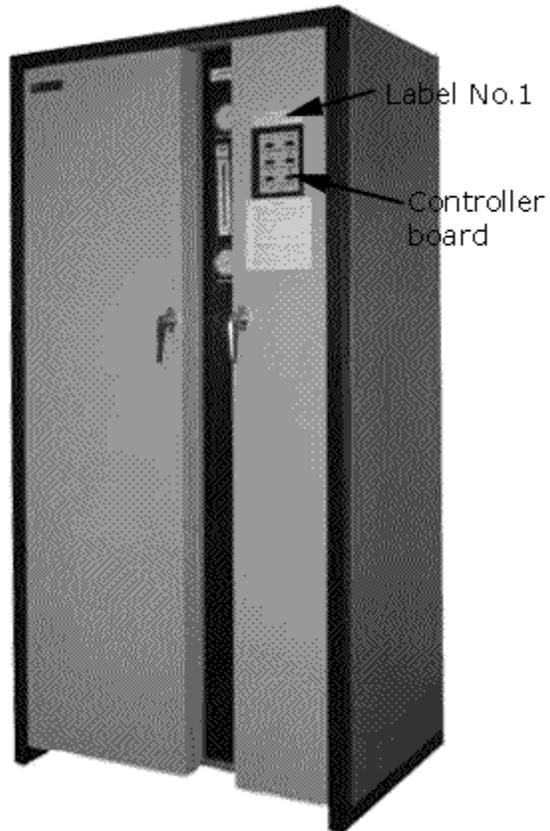

Figure 1
1. Refer to Figure 1, peel the back from **Label No. 1** and place it in the correct location (below controller board front door).